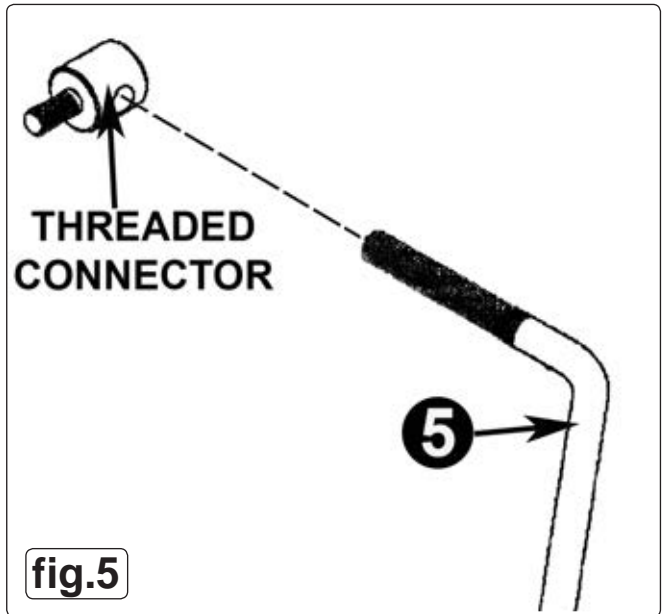

fig.5
- 4.9. Noting its position on the connecting rod (5), remove one of the threaded connectors, as shown in figure 5.